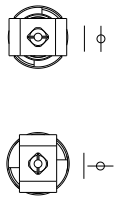

Figure 5.
- 4.4 A marking line on the stem shows the position of the ball (Fig. 5).